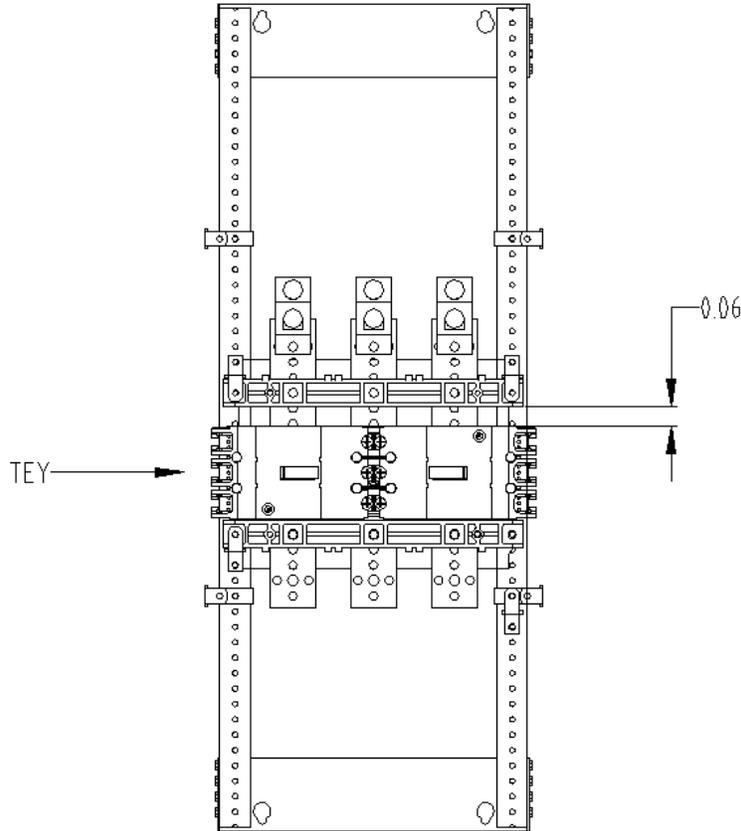

Figure 5. Distance between Crossbar and TEY breaker
10. If TEY breaker has to installed immediate after crossbar as shown in Figure 5 then gap between the breaker and crossbar has to be 0.06inch.